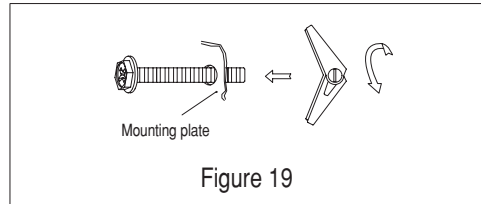

Figure 19
- Insert toggle bolts through the mounting plate at required locations and add the spring loaded toggles. See Figure 19.